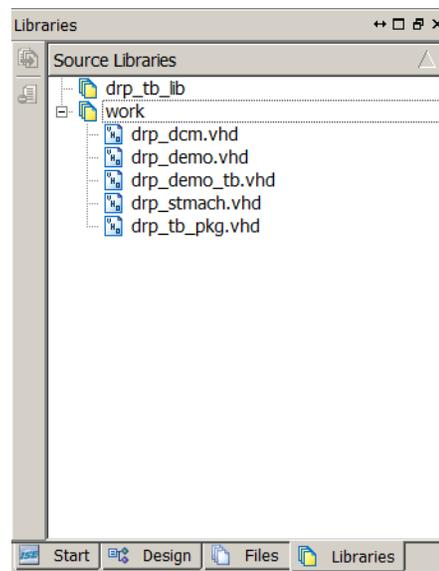

Figure 2-5: Libraries Panel
2. Expand the work library. (Refer to Figure 2-5.)